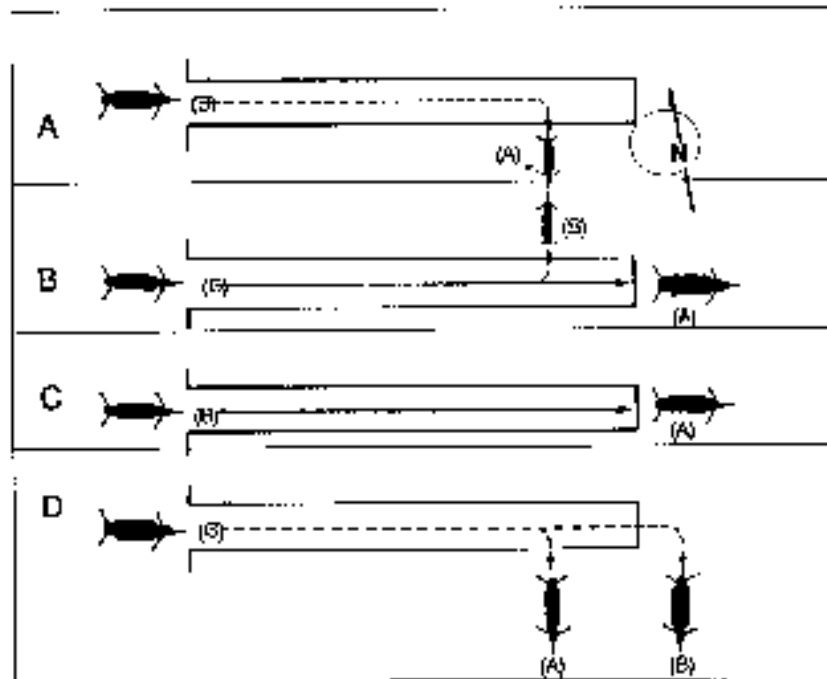

Figure 3-4. Minimum separation requirements.
a. **Arriving Aircraft.** The preceding aircraft (A) has taxied off the landing strip before the arriving aircraft (B) crosses the approach end on its final glide (Figure 3-4, A).
b. **Departing Aircraft.** The preceding aircraft has either crossed (A) the opposite end of the runway or turned away (B) from the projected path of the departing (C) aircraft before the latter begins its takeoff run (Figure 3-4, B).
c. **Departing and Arriving Aircraft.** The departing aircraft (A) has crossed the opposite end of the runway before the arriving aircraft (B) crosses the approach end on its final glide (Figure 3-4, C).
d. **Departing, Preceding, and Arriving Aircraft.** The preceding aircraft (A) and arriving aircraft (B) taxied off the runway before the departing aircraft (C) begins takeoff run (Figure 3-4, D).